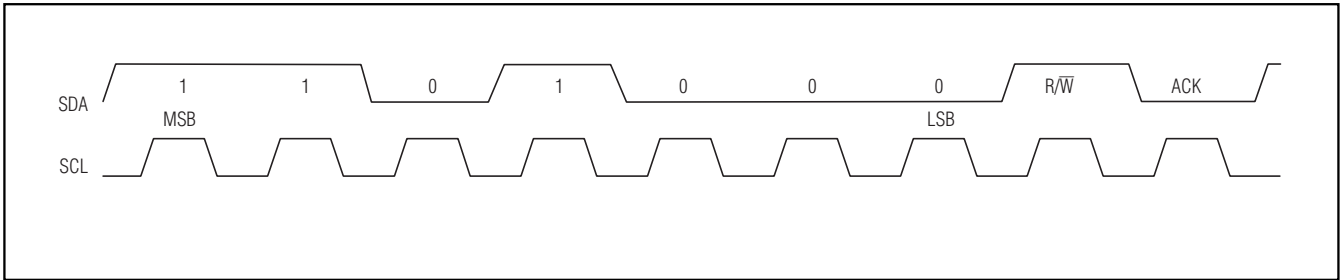

Figure 7. MAX6917 Slave Address
Before any data is transmitted on the I2C-bus-compatible serial interface, the device that is expected to respond must be addressed first. The first byte sent after the START (S) condition is the address byte or 7-bit slave ID. The MAX6917 acts as a slave transmitter/receiver. Therefore, SCL is only an input clock signal and SDA is a bidirectional data line. The slave address for the MAX6917 is shown in Figure 7.